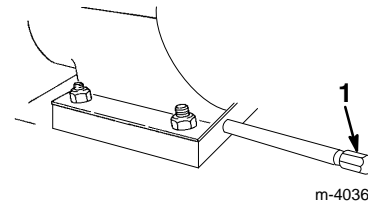

Figure 25
2. Clean the area around the oil drain plug (Fig. 25).
3. Slide an oil drain pan under the drain extension and remove the oil drain plug (Fig. 25).